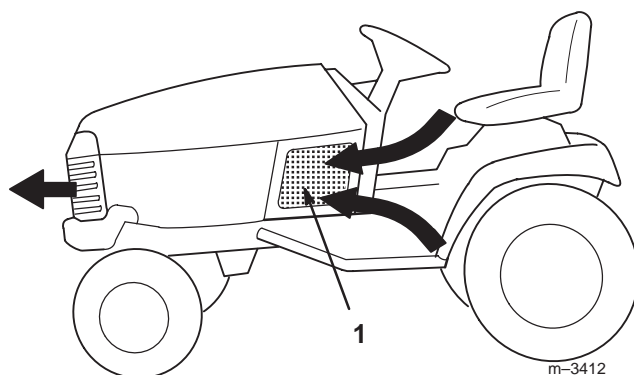

Figure 7
2. Check for debris on the air-intake screens (Fig. 7).